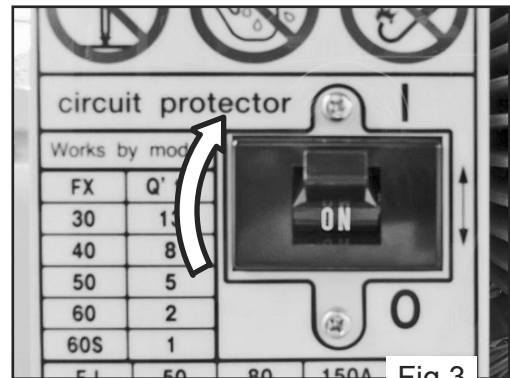

Fig.3
- 7.5 Turn on the switch of circuit protector (secondary side). (Fig.3)